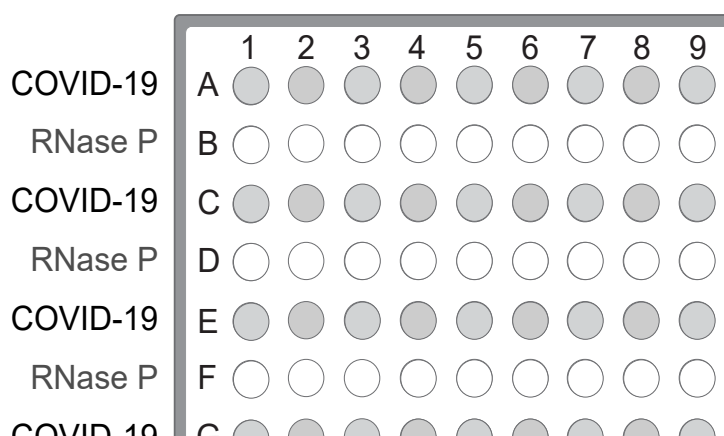

Figure 1 Assays in alternating plate rows
- a. Starting with row A, pipet 15.0 µL per well of the COVID-19 Reaction Mix into every other row of a MicroAmp™ Fast Optical 96-Well Reaction Plate with Barcode, 0.1 mL or a MicroAmp™ Optical 96-Well Reaction Plate with Barcode, 0.2 mL. See Figure 1 on page 49.